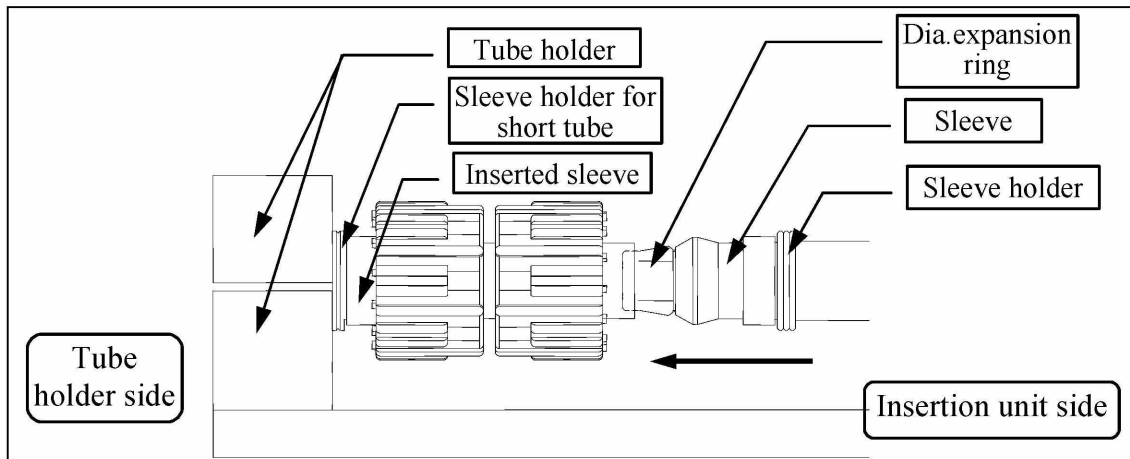

Fig. 37 - Parts arrangement (10,W3)
- Loosen the knob located at the bottom of the tube holder, position the tube holder so as to allow the arrangement shown in Fig. 37, and then retighten the knob to secure the unit.
- Put the union nuts on the tube, set the inserted sleeve in sleeve holder for short tube, and then fix the sleeve holder to the $\phi 6$ portion of the tube holder (see Fig. 37 and refer to Table 16 for applicable parts).